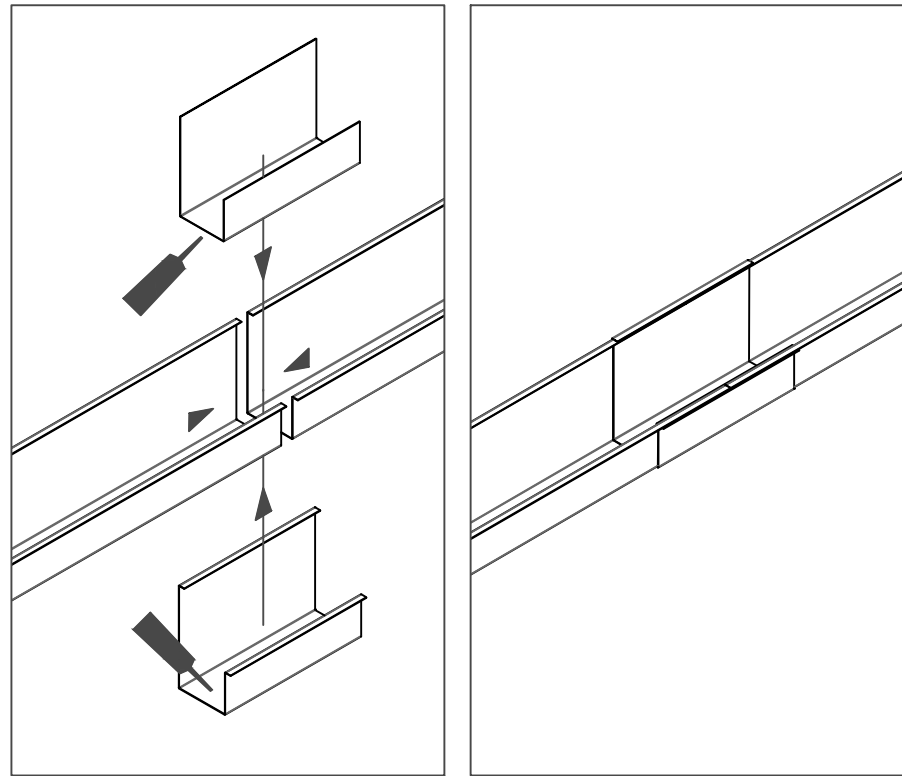
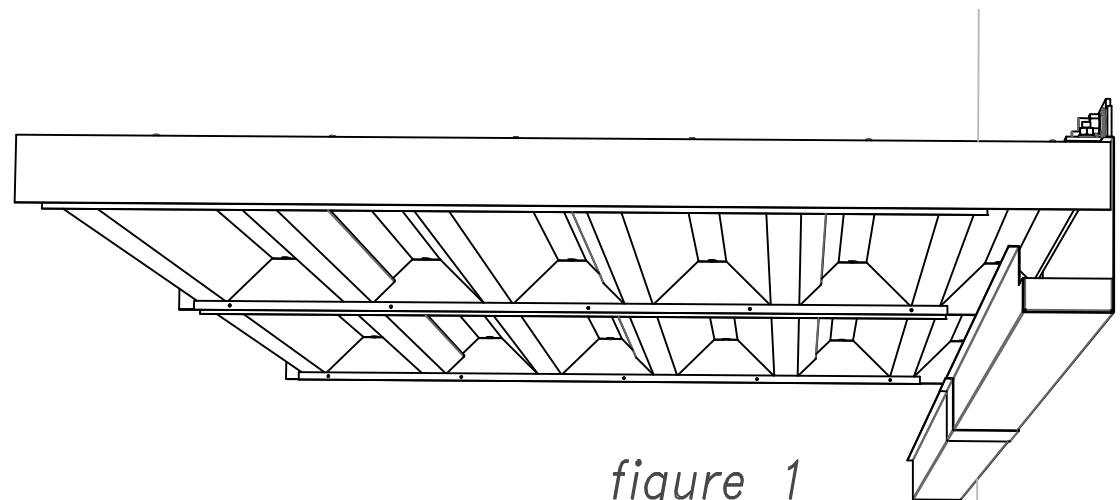
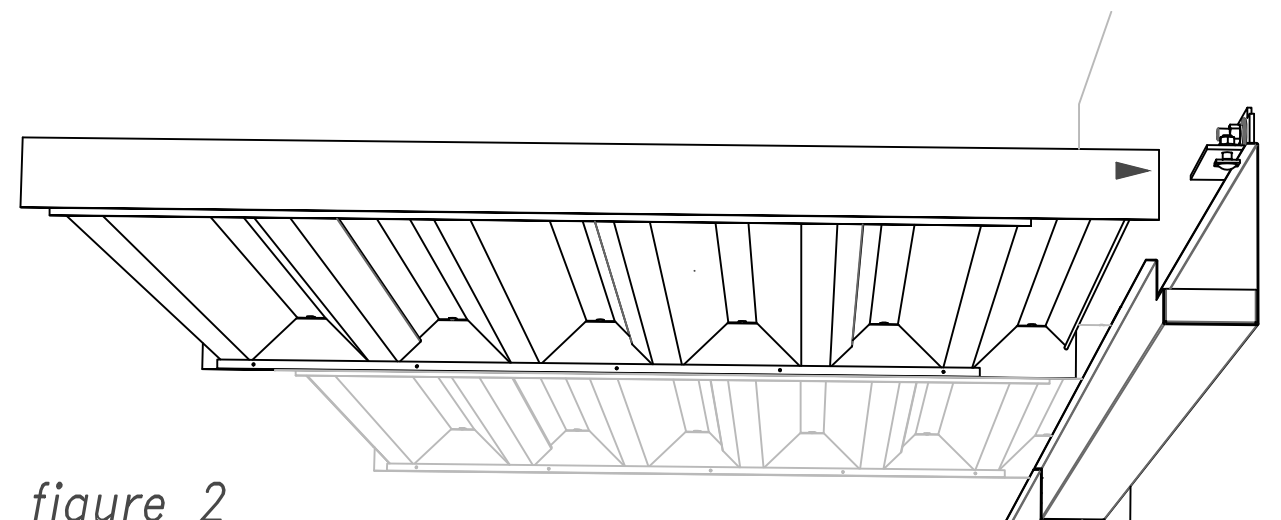

figure 4
figure 1
figure 2
Hanger rod assembly. Assemble Upper Clevis as shown in **FIG. 1**. Then Attach clevis end of hanger rod to eyebolt using  $\frac{5}{8}$ " x  $2\frac{1}{2}$ " bolt with a flat washer on each side of eye, and  $\frac{5}{8}$ " nut on end.
**SEE FIG. 1A.** At lower pipe end screw  $\frac{5}{8}$ " x 6" threaded rod into reducer end of hanger rod, leaving about 3" of thread showing. Now turn two  $\frac{5}{8}$ " nuts onto threaded rod. Insert rod into slot in front clip angle with a  $\frac{5}{8}$ " flat washer on each side of slot followed by a  $\frac{5}{8}$ " nut. This assembly should look like **FIG. 2**.
Install flashing. The flashing furnished will take care of most situations. This flashing is laid over the edge of the rear leaf of the section, and the small bent lip is pressed against the building wall, preferably into a horizontal mortar joint. Caulking may be applied between and over bent flashing edge. Rivet the flashing to the rear leaf about every 2 to 3 feet, caulking over the rivet to help prevent any leakage. Flashing is by Mapes, caulking is "By Others". **SEE FIG. 1.**
Install baffles. Baffles are attached to  $\frac{1}{2}$ " x  $\frac{1}{2}$ " angle on the canopy sections using  $\frac{1}{8}$ " rivets. The  $\frac{1}{2}$ " bent edge of the baffle sits flush to the bottom of the leaves and the flat side is riveted to the flat side of the  $\frac{1}{2}$ " x  $\frac{1}{2}$ " angle, with the offset leg of the baffle set toward the outside of the canopy. This offset allows the baffle to sit inside of the fascia and seals the end of the canopy. **SEE FIG. 2.**
On jobs where rear gutter is used, the gutter runs continuously along the the building wall for the full length of the canopy (Fig.1 above). The upper lip of this gutter hooks over the top of the canopy sections, as the sections are installed on the rear clips (during Step 5, sheet 03), securing the gutter between the wall and section (Figs. 2 & 3). (The lower lip of rear gutter is later attached to the intermediate troughs with  $\frac{1}{8}$ " rivets). The gutter ends are closed, notched, and sealed to fit the fascia. The piece with the left side closed goes onto the left side of the canopy (as you face the building), the other on the right side. The center pieces of rear gutter are open and are not notched. Inside and outside splices are furnished for the joints between rear gutter pieces (Fig.4). Caulking should be applied to the inside and outside of the gutter and then the inside and outside splices should be put on. Caulking is not supplied by Mapes. Use  $\frac{1}{8}$ " rivets to attach splices. Intermediate troughs will have open ends feeding into the rear gutter (refer to previous steps for information on pitch and adjustment).